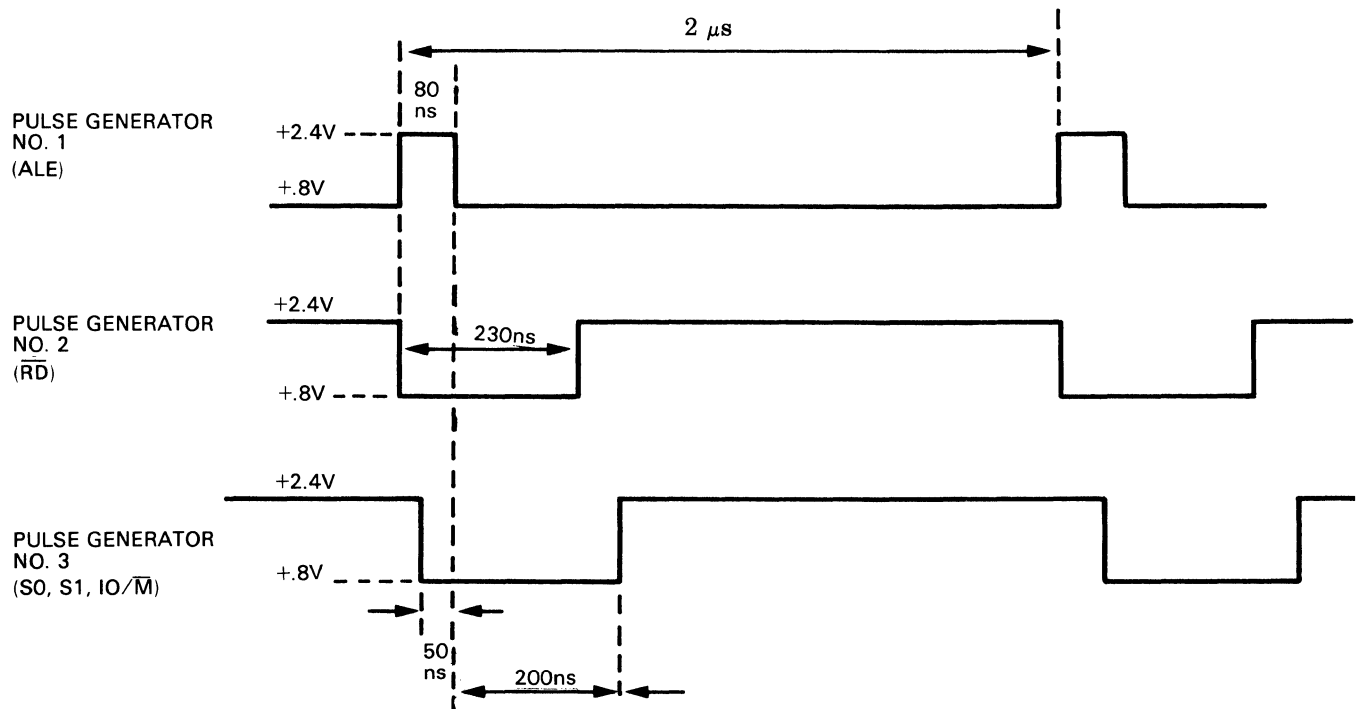

Figure 4-6. Data Bus Status Test
- b. Adjust pulse generators for test waveforms shown in figure 4-6.